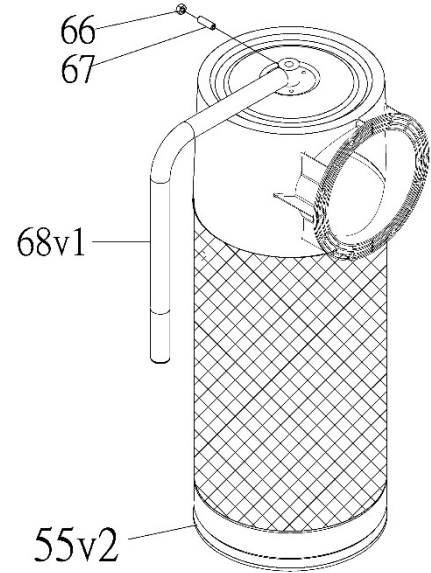

Fig. 5
7. Use the Set Screw (NO.67) 5/16" x 3/4" and Nut (NO.66) 5/16" to assemble the Handle (NO.68V1) and Canister Filter (NO.55v2) See FIG. 5